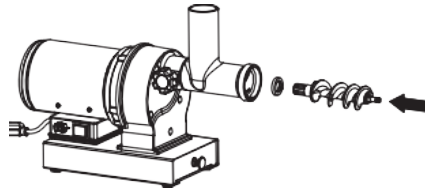

Fig. 2
- Insert auger into the grinder head. You may need to turn the auger to align it with the drive shaft of the motor. (See Fig 2)